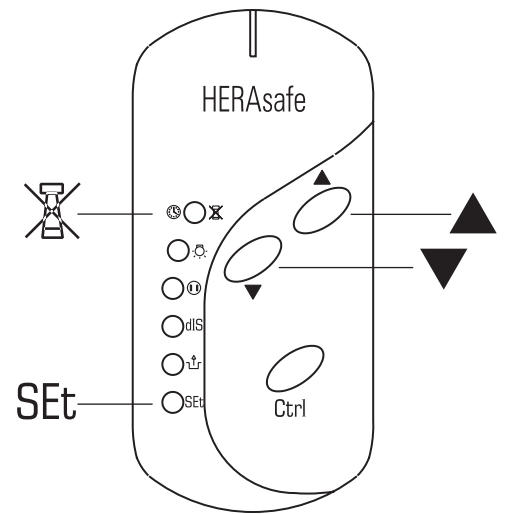

Fig. 15
**Fig.15:** The simple operation of the remote control allows the user to control all basic functions using a minimum of operating steps to switch the safety cabinet into work mode.